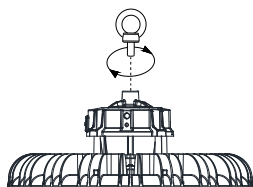

Figure 1
1. Please screw the lifting ring into the high bay light fixture, then tighten firmly. ( Figure 1)